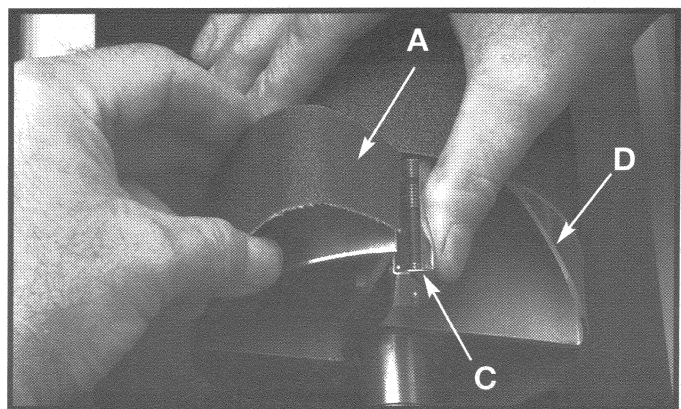
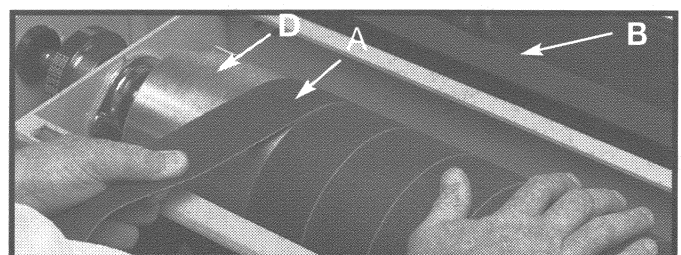

Fig. 29
Fig. 31
2. Open drum cover (B) Fig. 31 to remove the sanding belt (A) Fig. 29.
3. Press spring clips (C) Fig. 29 together and remove one end of sanding belt (A). **NOTE:** Clip must be fully depressed against the drum support.
4. Rotate the drum, (D) Fig. 31 by hand until you reach the other end spring clip. Squeeze the spring clip to open and remove the sanding belt (A).
6. Tightly wrap sanding belt (A) Fig. 31 around the drum cylinder (D), keeping each wrap close to the previous edge. **IMPORTANT: DO NOT OVERLAP THE EDGES OF THE SANDING BELT (A).** Insert the other end of the sanding belt into the left spring clip (C) Fig. 29 as tightly as possible.
7. The sanding belt will stretch during use. Periodically, press spring clip (C) Fig. 29 and reinsert stretched length into the clip.